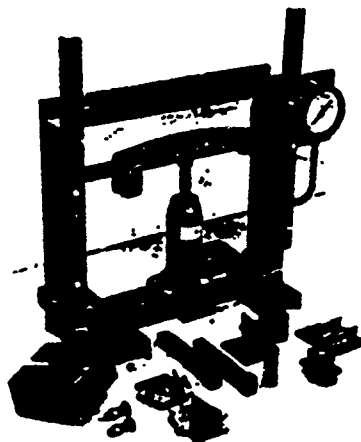

FIGURE 1
3. Assemble the eight pieces into a test strip using seven different fastening methods. (see Fig.1)
One such testing device is shown in Figure 1. This device was designed and